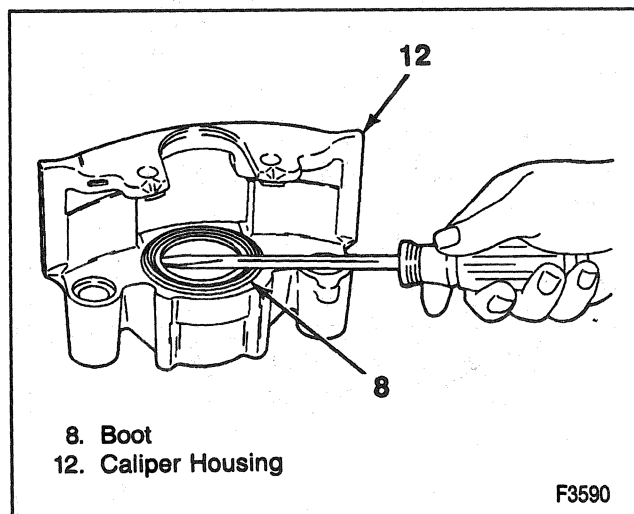

Figure 30—Removing the Boot
4. Boot (8) (Figure 30).
5. Piston seal (10).
6. Bleeder valve (11).